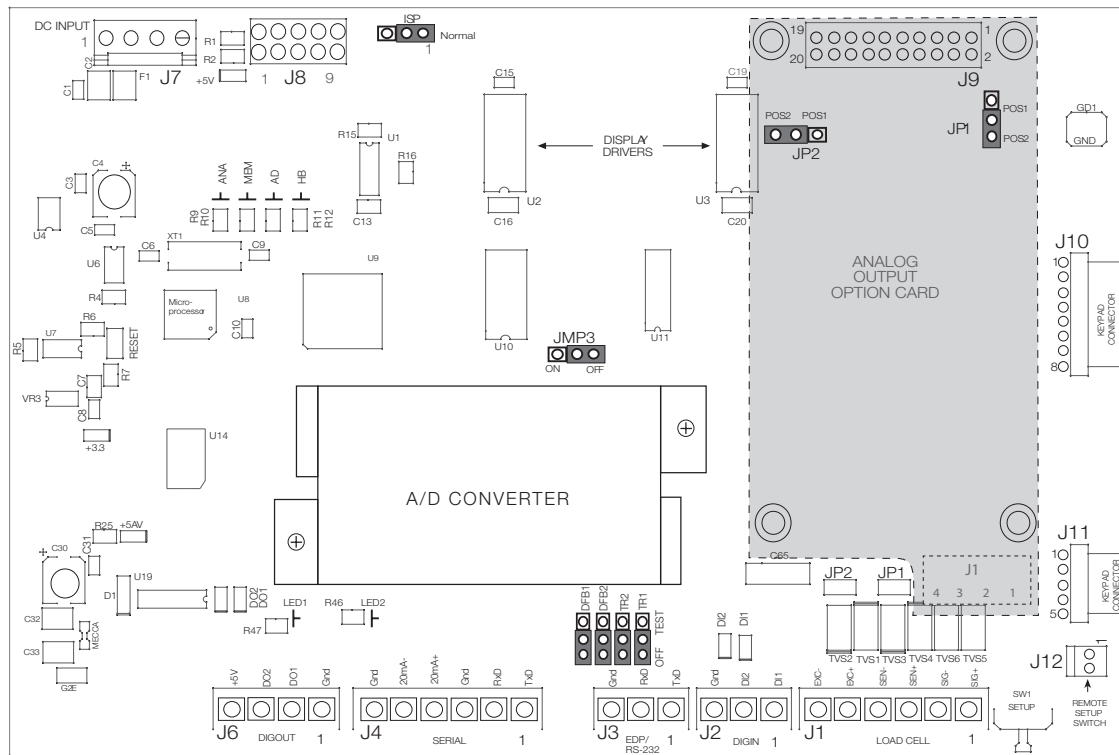

Figure 5-2. 420 CPU and Power Supply Board with Analog Output Option Card
Once cables are attached, reconnect J3 and J4 to the headers on the board (see Figure 5-2). Use cable ties to secure serial cables to the inside of the enclosure.
3. Unplug connectors J1 (load cell cable), J2 (digital inputs), J3 (EDP/RS-232), J4 (serial communications), J6 (digital outputs), and J10 & J11 (keypad ribbon cables). If an analog output board is installed, disconnect the analog output cable. See Figure 5-2 on page 22 for connector locations.